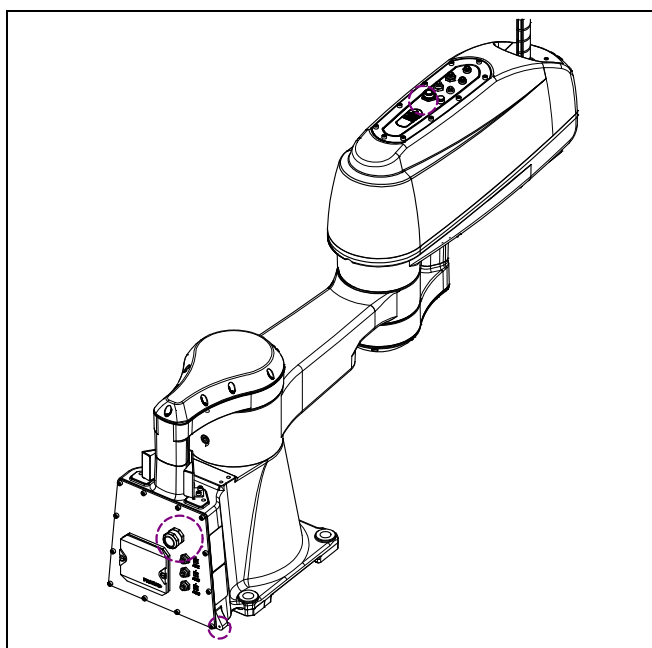

Fig. 7.2.3 (a) Connector Inspection points
- 2 Remove the seal bolts from the grease inlet and the outlet. (Fig.7.2.3 (a))